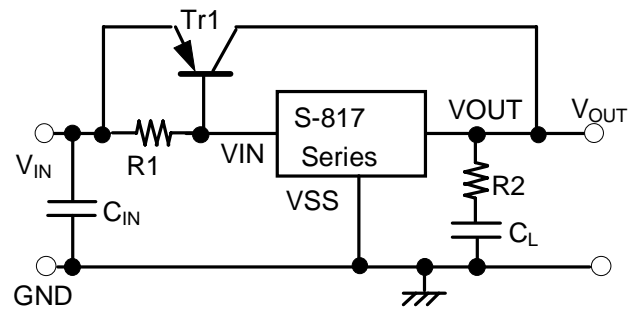

Figure 10 Output Current Boosting
As shown in Figure 10, the output current can be boosted by externally attaching a PNP transistor. The base current of the PNP transistor is controlled so that output voltage V_{OUT} goes the voltage specified in the S-817 when base-emitter voltage V_{BE} necessary to turn on the PNP transistor is obtained between input voltage V_{IN} and S-817 power source pin V_{IN} .
- Resistor R2: Set R2 to $2\ \Omega \times V_{OUT}$ (S) or more.
- To improve transient response characteristics of the output current boosting circuit shown in Figure 10, check that no problem occurs due to output fluctuation at powering on or due to power or load fluctuation under normal operating conditions.